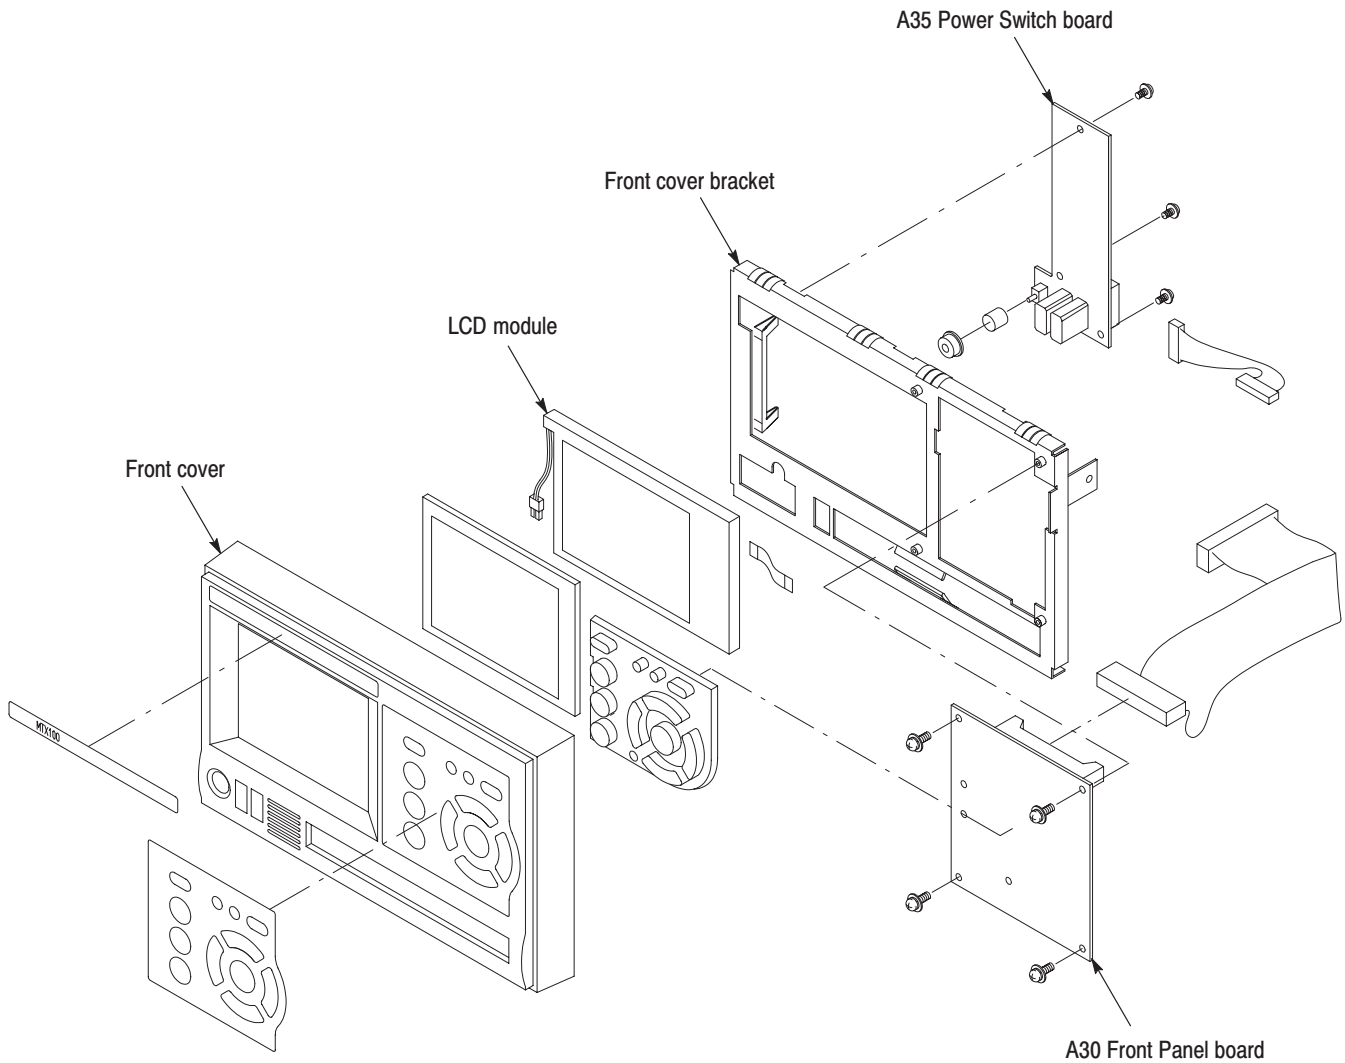

Figure 6-9: Disassembly of front-panel assembly
2. *Remove the front cover:* See Figure 6-9.
3. *Remove the A30 Front Panel board:* See Figure 6-9.
4. *Remove the A35 Power Switch board:* See Figure 6-9.
5. Now hand disassemble the front-panel assembly components using Figure 6-9 as a guide. Reverse the procedure to reassemble.